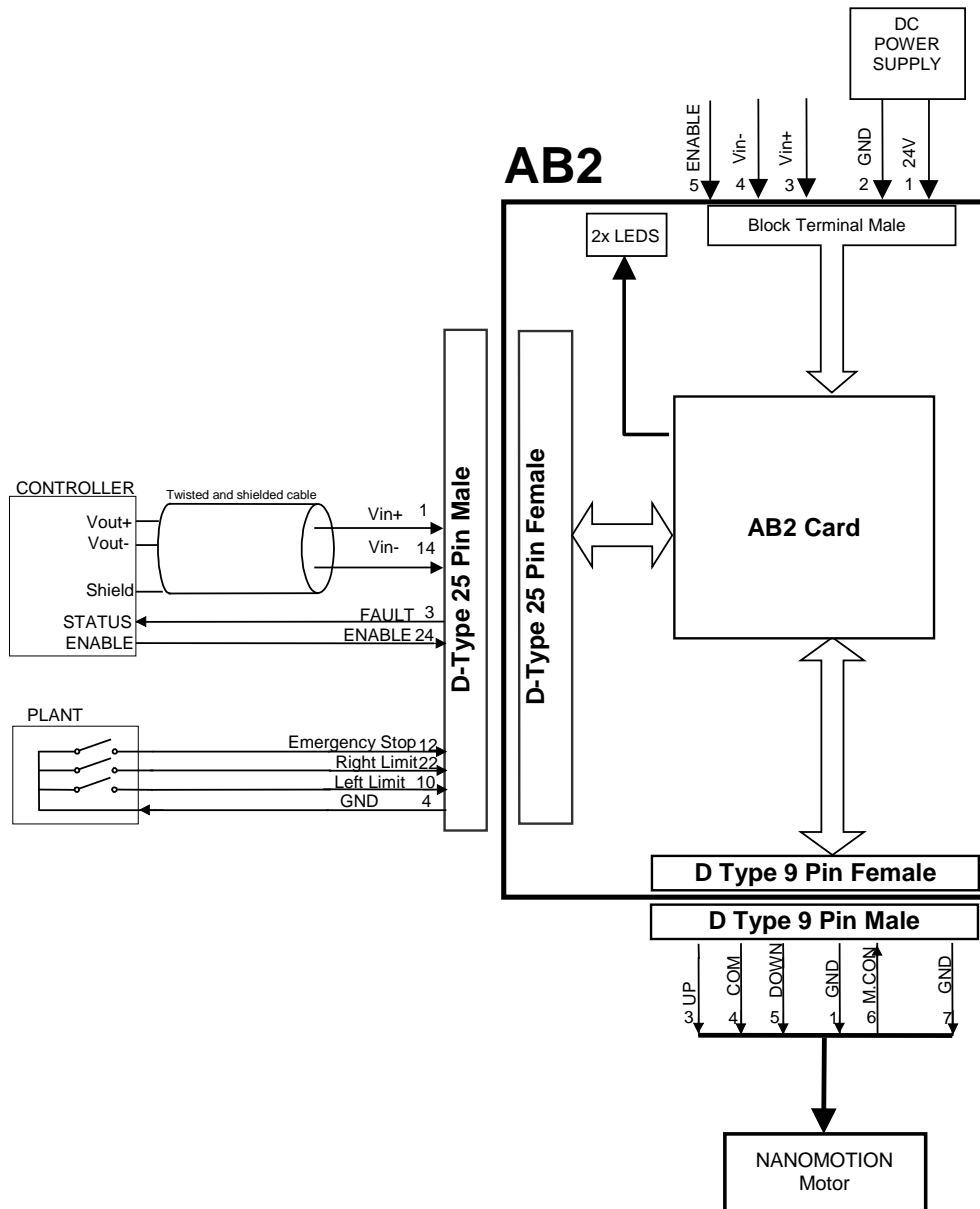

Figure 4: Differential Analog Input Connection
| Figure 4: Differential Analog Input Connection | 16 |
- Differential connection (see Figure 4)